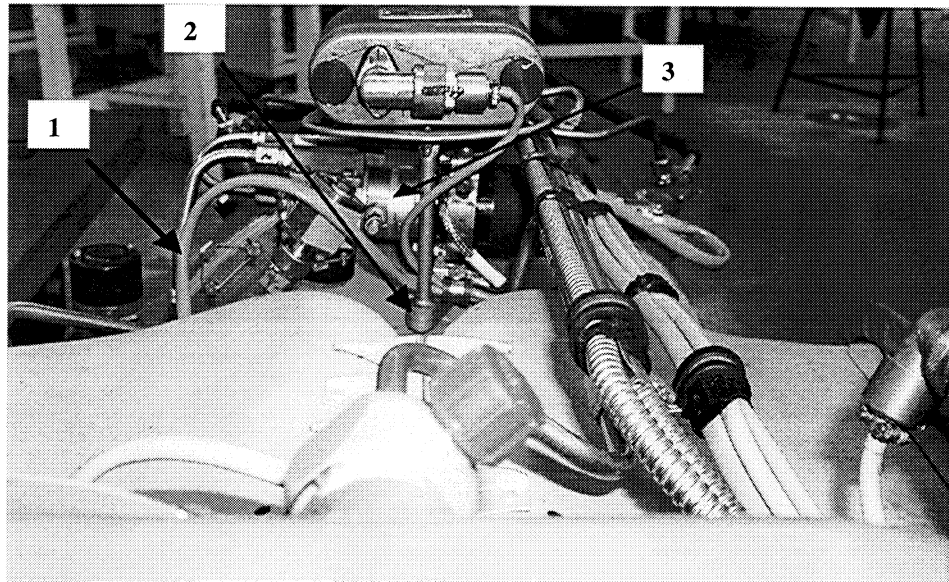

Figure 1
C. Description (figures 1 and 2)
B. Operating instructions (figures 1 and 2)
- (a) Check that the harness supplying the electric fuel valve (item 1) routes between the support root of the ignition plug (item 2) and the micropump (item 3) to prevent any contact with the turbine casing front flange.
- (1) Loosen the metal clamp (item 5).
- (2) Cut the plastic strap (item 6).
- (3) Reposition the wiring assembly (item 4) toward the front of the engine providing several centimeters clearance between the harness and the turbine casing flange.
- (4) Route the harness supplying the electric fuel valve (item 1) between the support root of the ignition plug item 1) and the micropump (item 3) to prevent any contact with the turbine casing front flange.
- (c) Install the plastic strap (item 6).
- (d) Tighten the metal clamp (item 5).